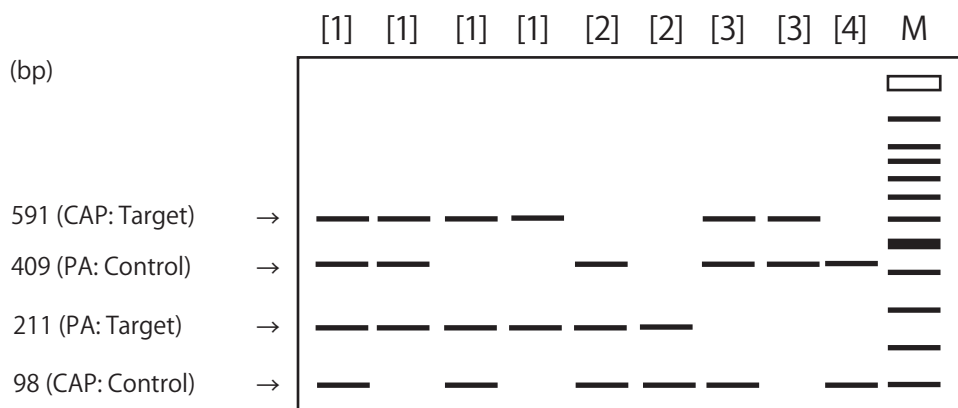

Figure 2. Electrophoresis result
(1) In case that each gene is positive or under detection limit. (Figure 2)